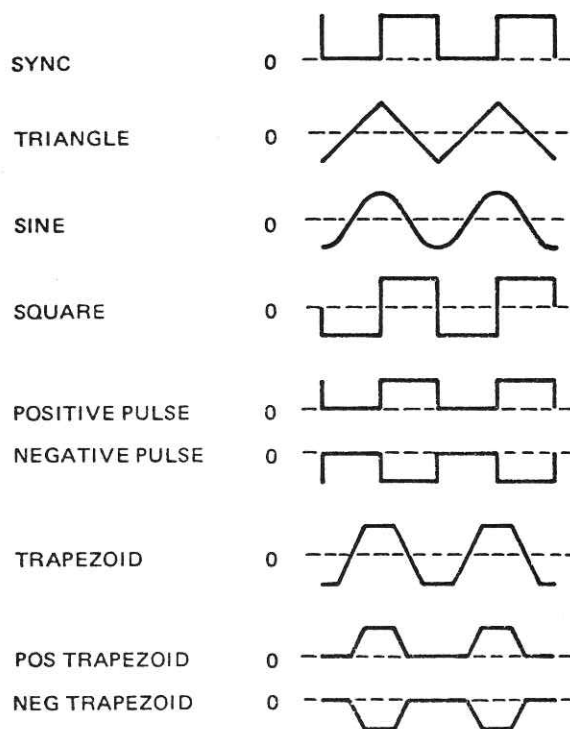

Figure 2-2. Selectable Waveforms and Sync Signal Phase and Polarity Relationships
Figure 2-2 for the sync signal relationship.
7. **SLOPE/WIDTH Control** – The small knob controls the slope of the trapezoidal waveforms. The large knob controls the time symmetry of the waveform. The setting of these controls does not affect the other waveforms. See Figure 2-2 for the sync signal relationship.
10. **50Ω OUT (HI)** – This is the selected waveform
12. **50Ω OUT (LO)** — This is the selected waveform output for the main generator or a dc voltage when the OUTPUT ATTEN (dB) control is set -40 dB to -60 dB.
14. **SYNC OUT** — This is a square wave (or rectangular if SYMMETRY control is in use) with the same frequency and same polarity of the selectable square wave at a 50Ω output. Amplitude into an open circuit is greater than 4 V p-p (2 V p-p into 50Ω). See Figure 2-2.